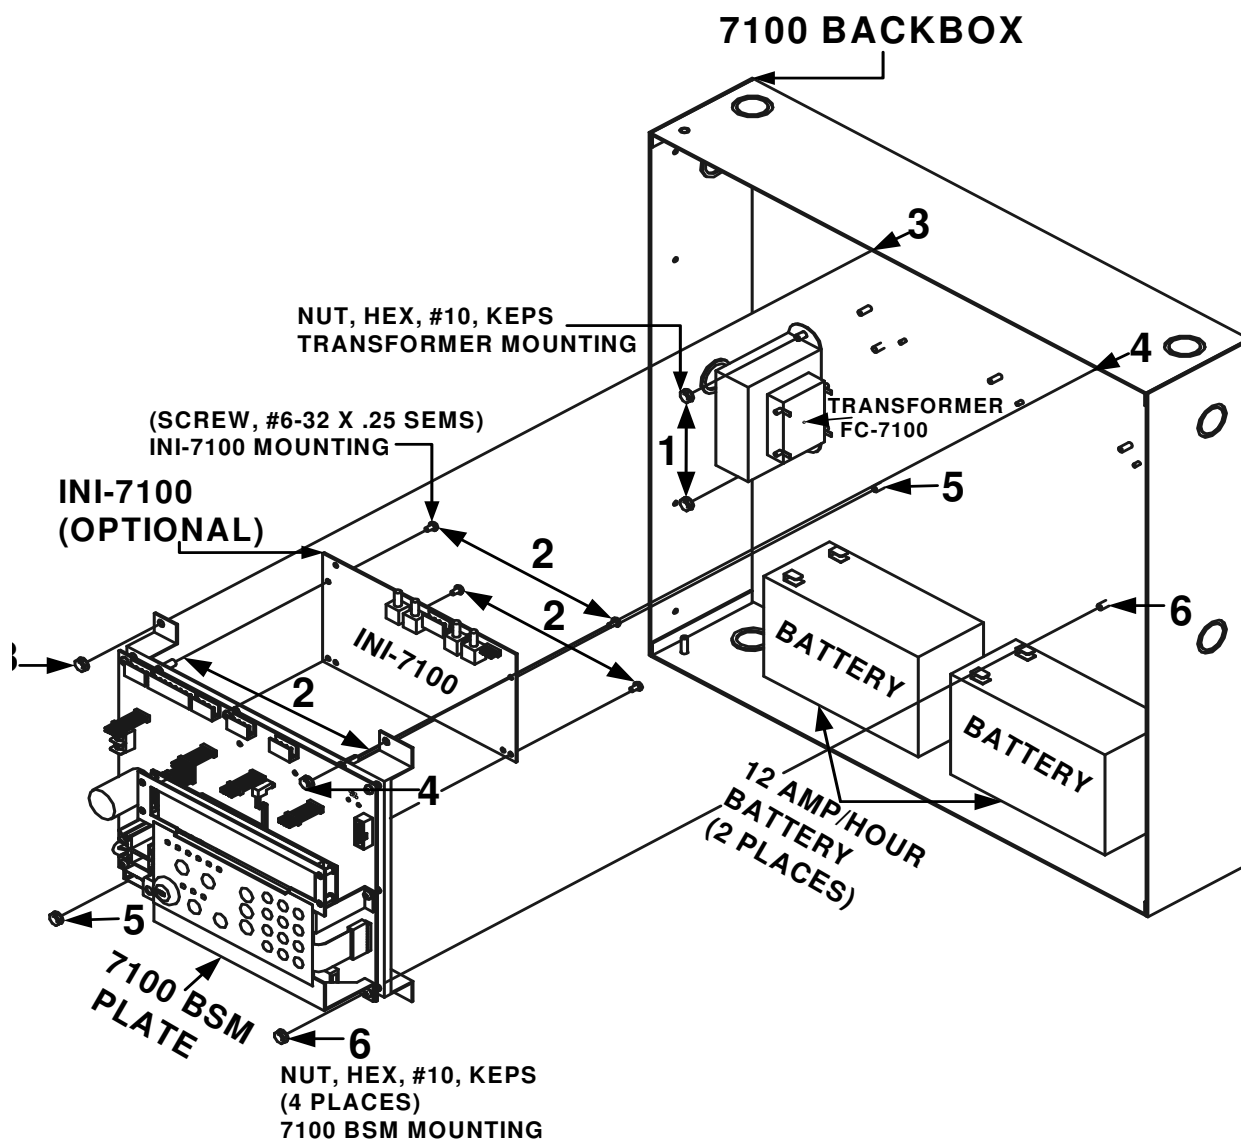

Figure 2.3.3.1 7100, BSM Plate to the Backbox Installation
1. Install the Transformer on the 7100 backbox and secure with two (2), nuts (#10-32 KEPS) as shown in Location 1 of Figure 2.3.3.1.
2. Mount the INI-7100 onto the 7100, BSM plate and secure with (4) screws (#6-32 x .25 sems) as shown in Location 2 of Figure 2.3.3.1.
3. Mount the 7100, BSM plate to the four-hole mounting pattern in the 7100 backbox and secure with four (4), nuts (#10 KEPS) as shown in Locations 3 thru 6 of Figure 2.3.3.1.